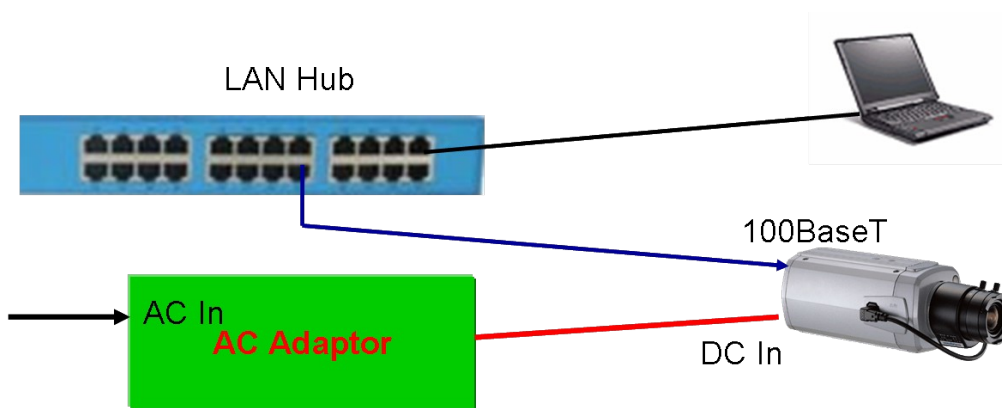

Figure 2-6. Connecting Video server and PC without using PoE
- 3) If you have standard power connect the video server and PC as illustrated in Figure 2.6.